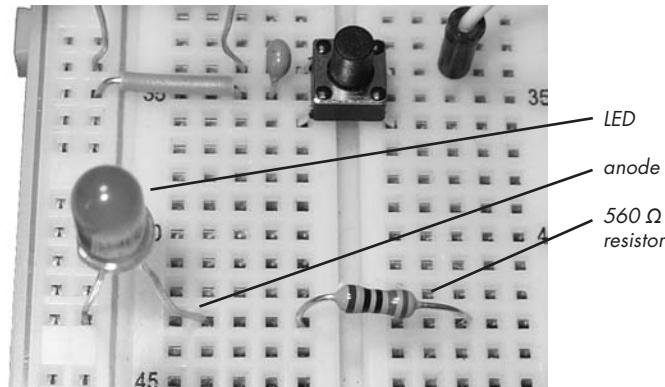

Figure 4-24: Inserting the LED and  $560\ \Omega$  resistor
5. Insert the LED into the breadboard with the short leg (the cathode) connected to the GND column, and the long leg (the anode) in a row to the right. Next, connect the  $560\ \Omega$  resistor to the right of the LED, as shown in Figure 4-24.